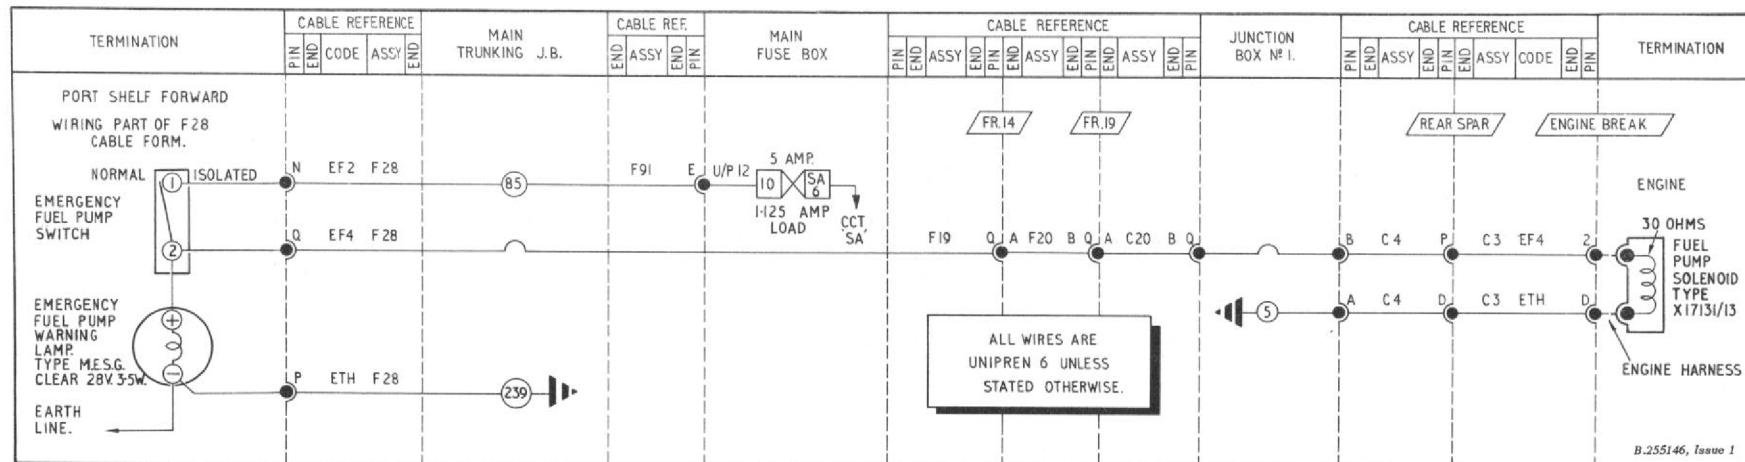

Fig.1. Emergency fuel pump
3. The circuit is supplied from the engine starter master switch and is operative immediately this switch is placed in the ON position. The operation of the circuit will be apparent once reference is made to the diagram given in fig.1.